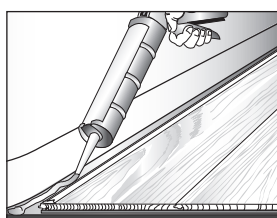

Figure 20
- All perimeter expansion zones must be completely filled with 100% silicone caulk following the manufacturer's recommendations. When applying caulk, it is helpful to first apply a strip of painter's tape (Scotch® Delicate Surface Painter's Tape 2080) parallel to and approximately 1/32" (.79 mm) from the edge of the hardwood (Fig. 20). Then fill the expansion zone with caulk, remove the excess with a plastic scraper or putty knife and remove the tape.